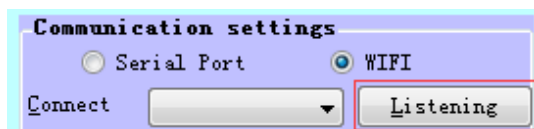

Figure 3.9: Monitoring In the Communication Setting Area
- (7) Click button “Listening” in the communication setting area, as shown in figure 3.9.